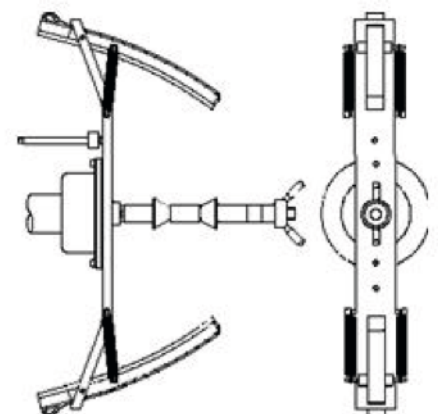

Figure F4.2. Application of sample weight on the internal side of the motorcycle flange on the shaft (Cal2 phase)
Apply the calibration weight on the internal side as shown in Figure F4.2. The calibration weight is to be applied on the hole that has the writing "CAL" marked on it;
9. Bring the motorcycle flange in perfect vertical position with the calibration weight at the top part as shown in figure F4.2 and press the [P8] Start or lower the wheel guard.